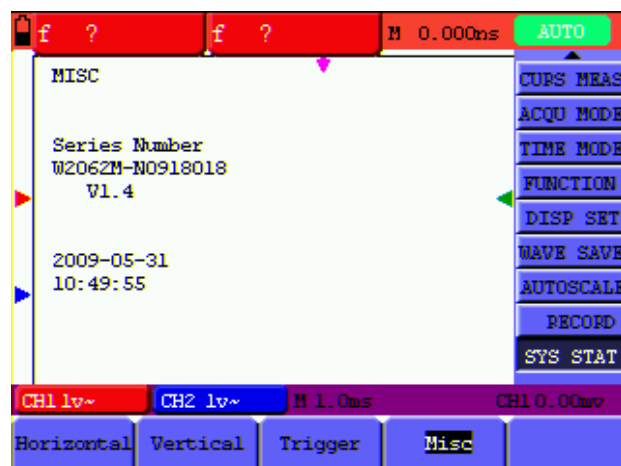

Fig.66: System Time
3. Press **F4** key and select **Misc** to display the system time, see Fig.66.